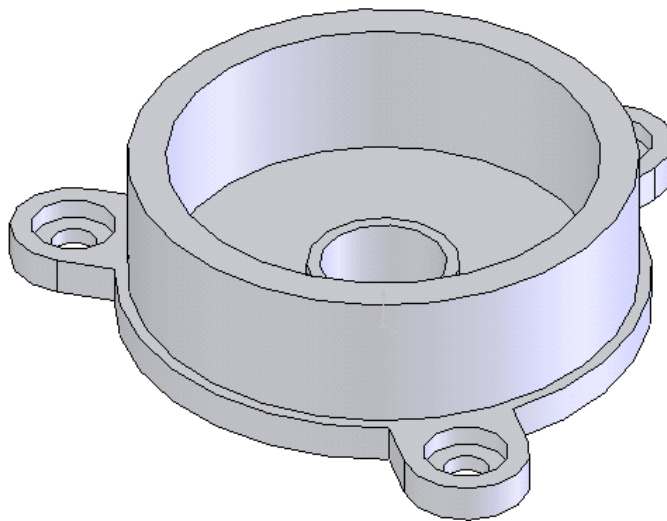

Figure 7-81 Model after patterning the features
- Pattern the second and third features along the temporary axis using the circular pattern tool, refer to Figure 7-81.
The model after patterning the features is shown in Figure 7-81.